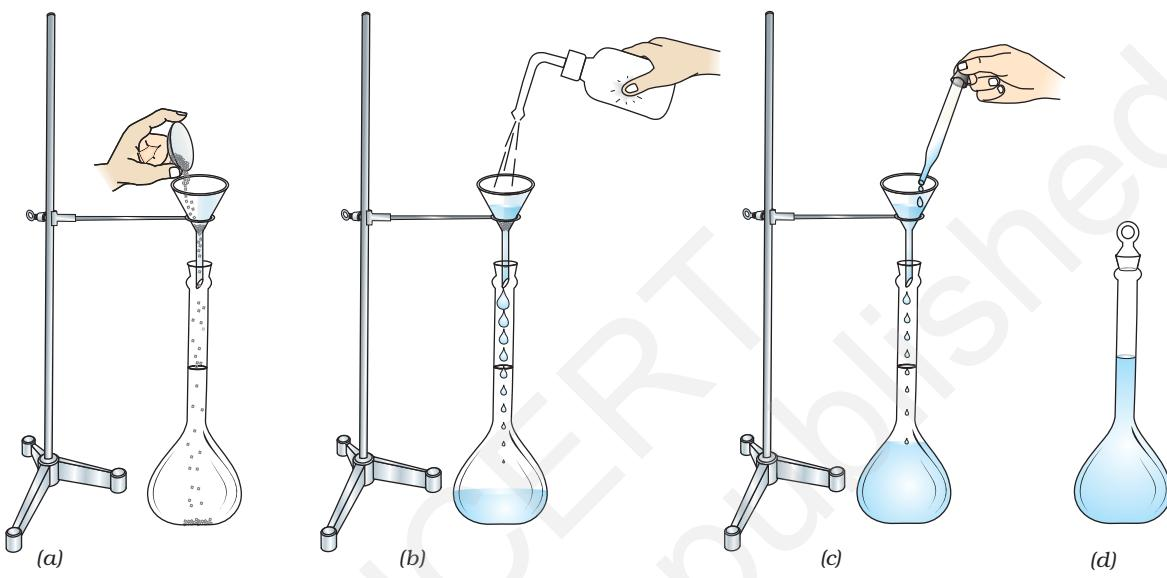

Fig. 2.27 : Making standard a solution
- (iii) Transfer oxalic acid carefully from the watch glass/weighing tube into a clean and dry measuring flask using a funnel. Weigh the empty watch glass again (Weight 3) and find out the mass of oxalic acid transferred to the measuring flask by subtracting this mass (Weight 3) from the combined mass of watch glass and oxalic acid (Weight 2). Calculate the exact molarity of solution from this mass. Wash funnel several times with distilled water by using a wash bottle to transfer the sticking particles if any into the measuring flask. While washing the funnel, add water in small amounts so that its volume in the flask does not exceed $\frac{1}{4}$ th of the volume of the measuring flask as shown in Fig. 2.27 a, b.
- (iv) Swirl the measuring flask till solid oxalic acid is completely dissolved. Add more distilled water with shaking. Make up the volume with distilled water to the etched mark by adding last few mL dropwise. Stopper the flask and shake it thoroughly to make the solution uniform throughout (Fig. 2.27 c, d). Label it as 0.1 M oxalic acid solution.